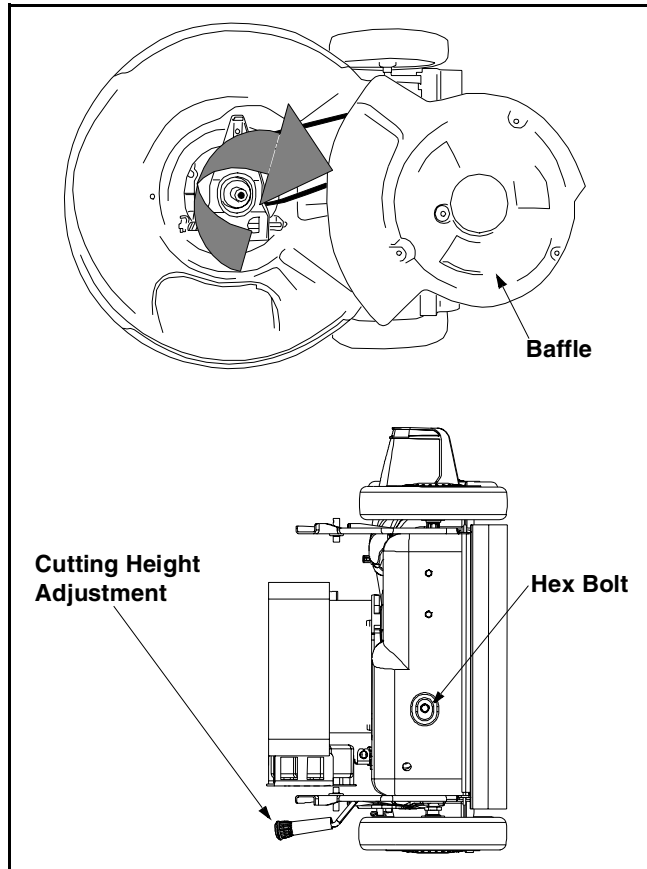

Figure 17
- Remove the three hex screws holding the baffle to the deck and pivot baffle towards the rear of the mower. See Figure 17.
- Remove the hex bolt from the rear of unit holding the transmission to the mower housing. See Figure 17.